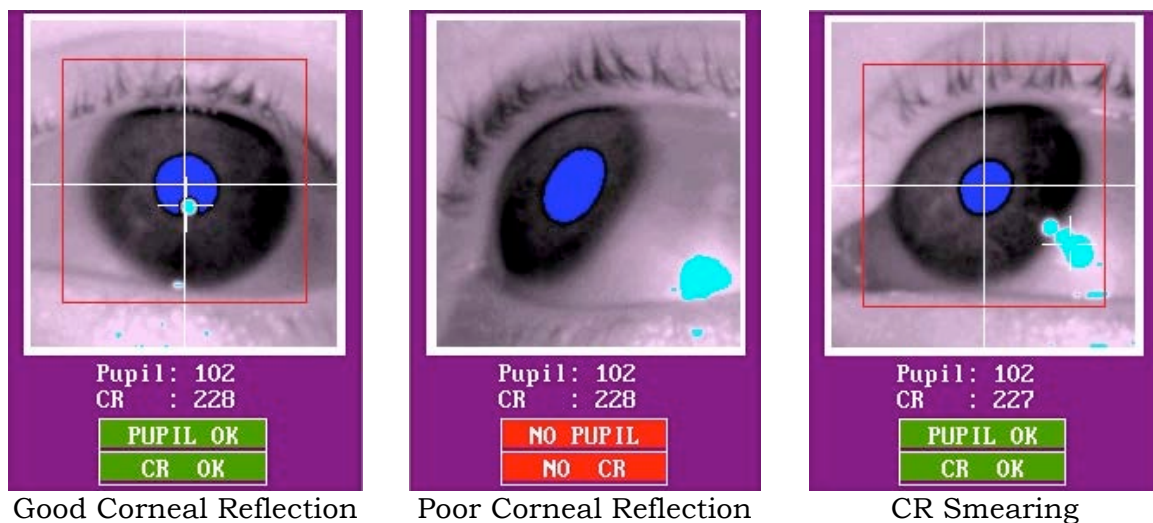

Figure 3-18: Corneal Reflection
- c) Have the participant slowly look along the edges of the display surface and ensure that the corneal reflection does not get lost. If the CR does get lost, a “NO CR” error message will be displayed below the zoomed eye image (see the middle panel of Figure 3-18).
- d) Another potential problem to look for is CR smearing, which is typically seen when the participant looks at the top-left or top-right corner of the display (see the right panel in Figure 3-18). This is an indication that the viewing angle is too large for the setup. If you see this, try raising the desktop mount and/or increasing the view distance.